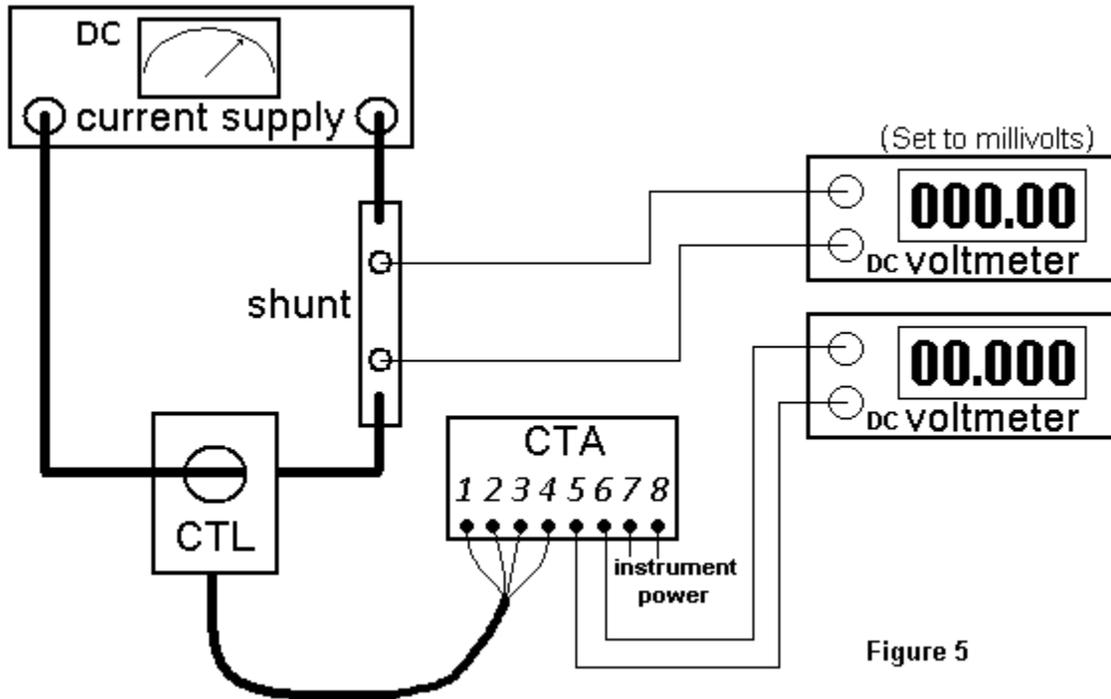

Figure 5
- DC current supply capable of supplying full window current for the model-sets with a **Direct-Measuring CTA:** (CTA201\*, CTA212\*). Figure 5.
- Current shunt. (typical outputs are 50mV or 100mV representing full rated current). For DC calibration the recommended shunt and metering source with an accuracy of 0.1%. Figure 5.
- Two Volt-meters. The meter with the highest resolution is recommended. Figure 5 or 8.
- \*\*Precision resistor. (for calibrations with CTA outputs of 1mAdc, 4-20mAdc or 4-12-20mAdc only) Recommended accuracy: 0.1%. Figure 5 or 8. (Resistor not shown).